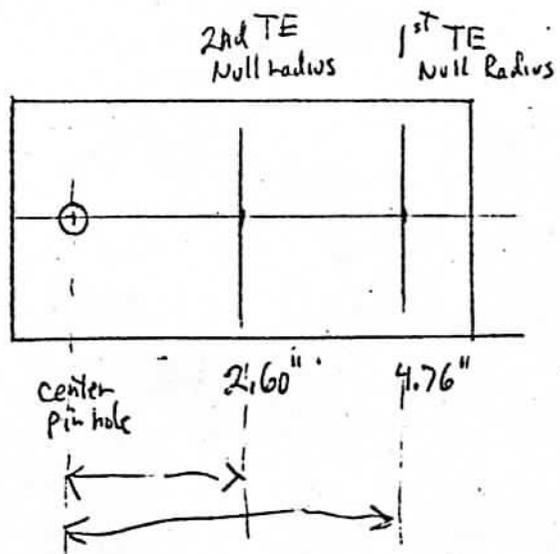

Fig 2
Step 3; Construct and retain for future use a 5x7 file card ruled as shown in fig2. The hole for the center pin can be made by starting it with a sharp pencil and pressing it over the centerpin. The radial line and the two perpendicular lines should line up with the center pin center. These two record groove radii are the positions that have zero tracking error laterally for all arm lengths. The zero error points are derived from the inner and outer diameter dimensions of the record thus are independent of the arm size. Using this fact it is possible to correctly adjust the offset angle of the previously set up arm so that the optimum and minimum tracking error distortion will be achieved. The arm can be positioned as though to play a record -by the cueing lever if possible- just over the outer (4.76") mark and by sighting the pickup to get it by twisting to lie on a line that is perpendicular to the radial line intersecting the stylus at the zero error points. After the pickup is set to the outer zero, try it at the inner point (2.60"). With some pickups that have a flat front face it is possible to sight and to test with the small rule to see that the face lines up parallel to the radial line. One such pickup is the Denon 103. It is easy to observe the position of the center pin using the front face of this pickup as a "gun-sight" noting that the sight line should be to a point just past the center pin's center by the same distance that the face is in front of the stylus. A little experience with this approach will readily develop the ability to set up quickly to the optimum. Avoid allowing the stylus to touch the surface of the card to prevent bending it if the table is rotated backwards during the handling. When correctly set up the actual error angle is greatest at the outer record diameter and each of the other two maximum errors (in angle) are progressively less. This is because the distortion that is produced by the error increases as the groove speed decreases towards the inner grooves. It is directly proportional to the angle divided by the groove speed. Thus the degrees error per inch of groove radius is equal at the three maximum error points and is also minimum in magnitude for the available arm length.